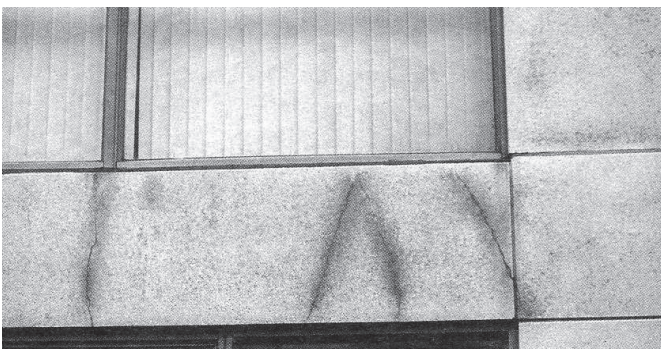

FIGURE 3.1 – WALL CRACKING PATTERNS
- Wall cracking patterns and locations (See Figure 3.1)